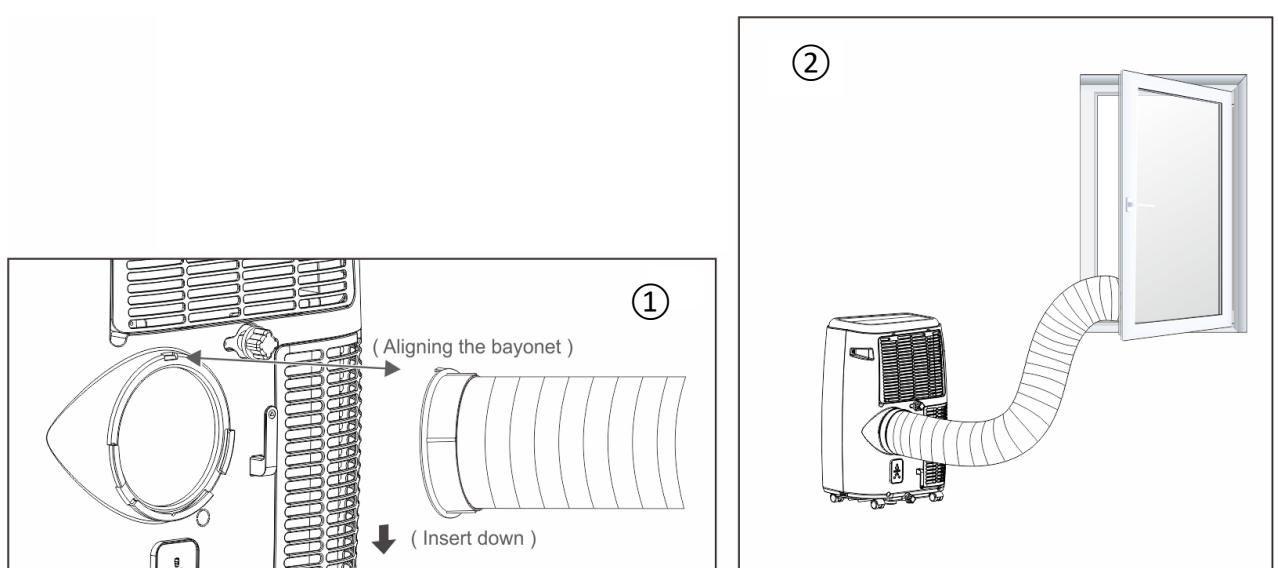

Fig.9
1. Insert the square fixing clip into openings at back of the air conditioner (see Fig.9).